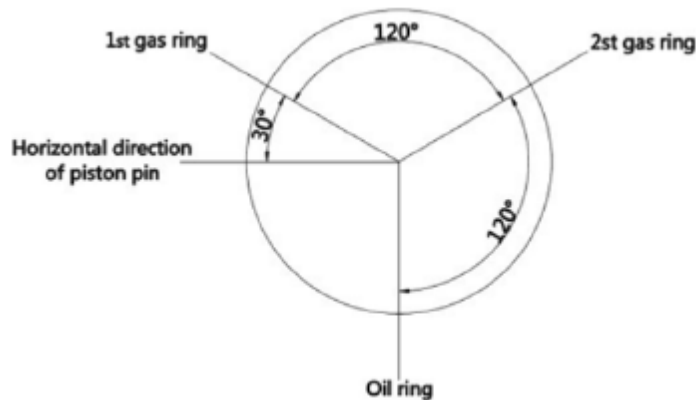

Figure 104.
5. Fit the 1st circlip (Figure 104, Item 4) onto one end of the piston.
6. Lightly oil the bore openings and insert the piston pin (Figure 104, Item 5) into the first part of the bore.
9. Stagger the piston ring end gaps at 120° intervals (Figure 104). Do not position the top piston ring end gap in line with the piston pin.